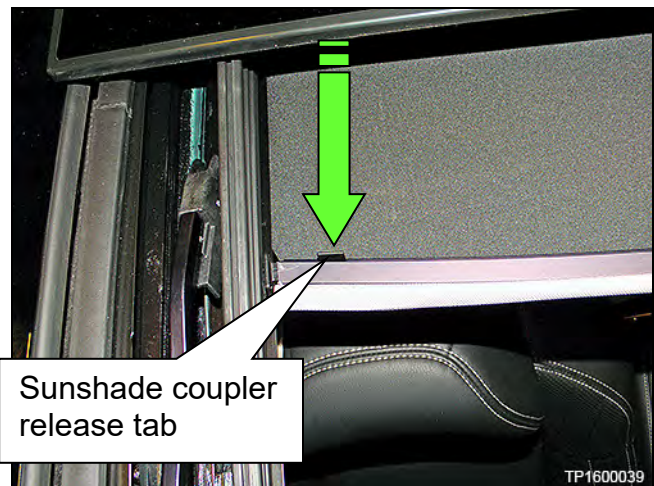
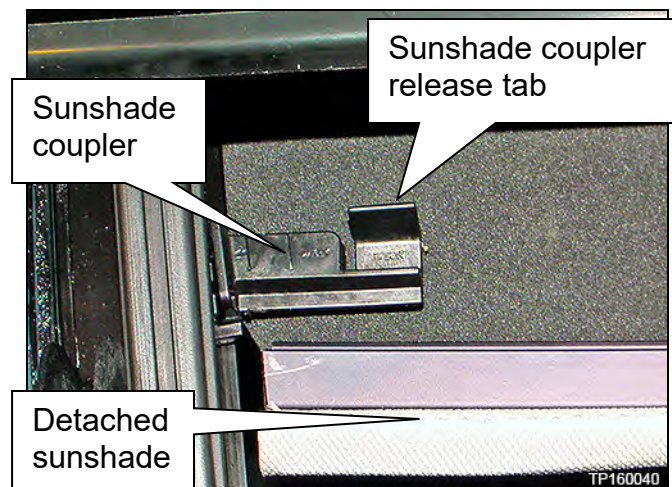

Figure 67
Figure 68
- Figure 67 and Figure 68 show the right side of the front sunshade.
8. Detach the sunshade from the sunshade coupler by pressing the coupler release tab (Figure 68).
- Figure 68 shows sunshade coupler detached.